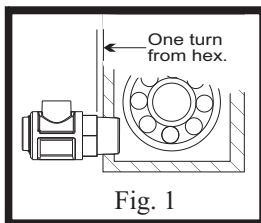

Fig. 1
3. Hand tighten or use a 1-3/8" open end wrench until one turn from bottoming the hex against the housing wall or until threaded boss is upright (Fig. 1).